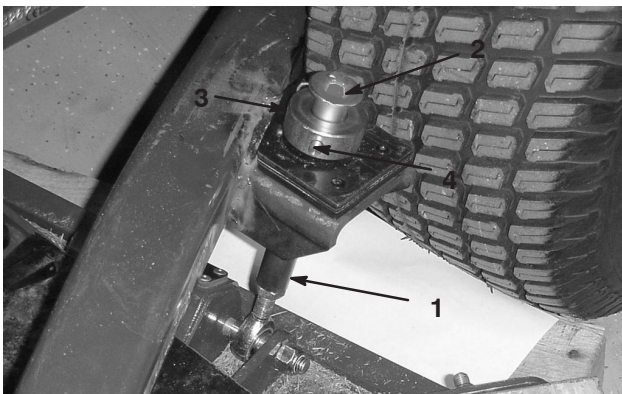

**Figure 23**
2. Position the machine and cutting unit on a level surface and lower the cutting unit. Remove the dipstick/fill plug from the top of the gear box (Fig. 23) and make sure that the lubricant is between the marks on the dipstick. If the lubricant level is low, add SAE 80–90 wt. gear lube until the level is between the marks.